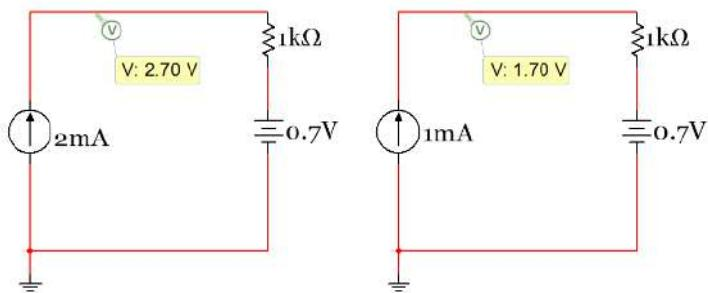
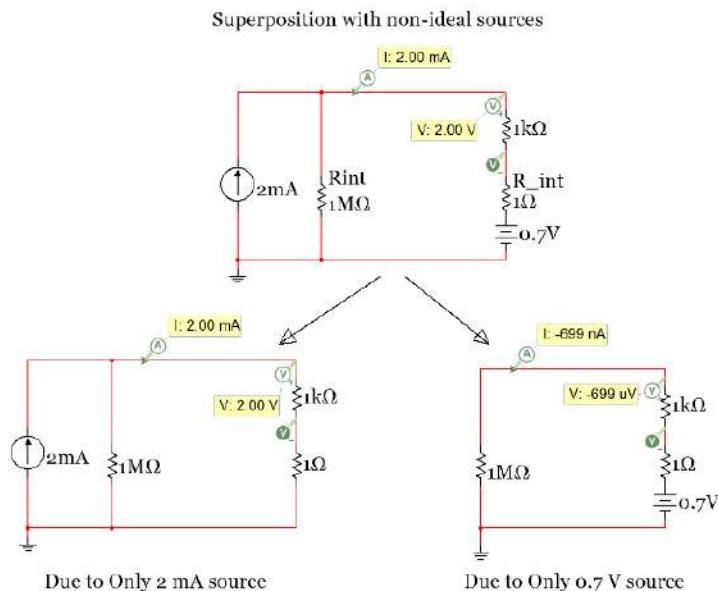
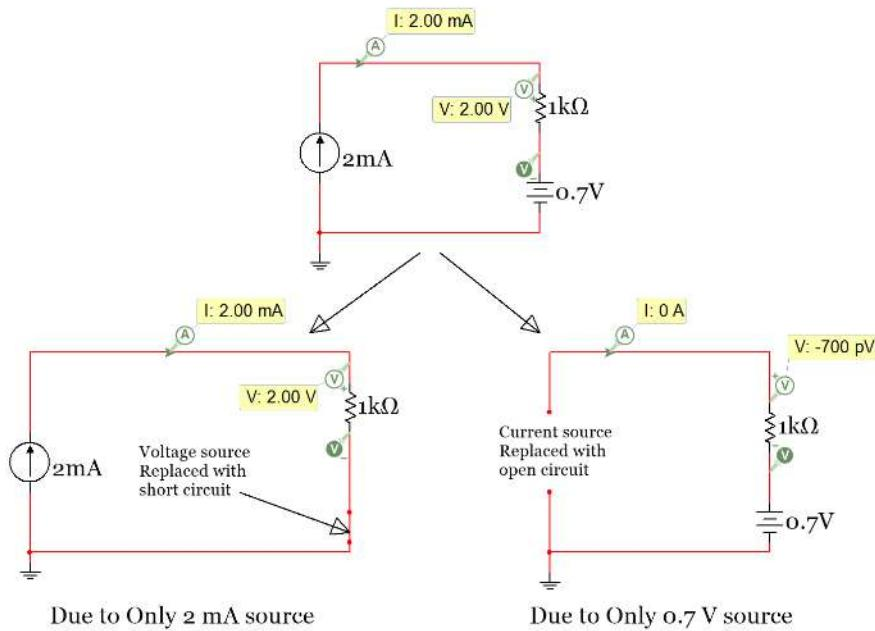

Figure 2.32: Example of a linear system - Circuit with a resistor and a diode that is replaced with a battery.
Figure 2.33: Example of Superposition with Non-Ideal Sources - The 0.7 V battery has a negligible effect
Figure 2.34: Example of Superposition with Ideal Sources
using Newton's 2nd Law all of the forces acting on the mechanical body result in the body having a net acceleration. If the system is linear then superposition can be used where the acceleration due to each individual force is calculated one at a time. All of the individual accelerations could then be added together and the resulting total acceleration that results would be the same as solving the system all in one step with all forces in the same calculation. This same process can also be used for independent sources in electrical linear systems. The only thing that complicates the superposition procedure for linear circuits is what to do with the "other sources" that are physically connected to the circuit as you solve the circuit one source at a time. If the sources are not ideal then the "other sources" are replaced with their internal resistance. Recall in Figure 1.3 of Module 1 that a non-ideal voltage source is modeled as a battery in series with a small resistor. This small resistor (called R_{int}) is the internal resistance. A non-ideal current source is modeled as a large resistor in parallel with the current source. If the sources of the circuit in Figure 2.32 are replaced with a non-ideal current source with internal resistance of $1\text{ M}\Omega$ for the current source and $1\text{ }\Omega$ in series to transform the ideal voltage source to a non-ideal voltage source, the results are shown in the top circuit in Figure 2.33. The voltage across the $1\text{ k}\Omega$ resistor is approximately 2 V , which is the same value as obtained in the circuit in Figure 2.32 with ideal sources. The value is approximately the same because the values of R_{int} in this case for the current and voltage sources have minimal effect on the circuit.
For sub-problem 1 (on the left side of Figure 2.33) the voltage source must be "zeroed out" and for sub-problem 2 (on the right side of Figure 2.33) the current source must be "zeroed out" so that only the internal resistance remains for both. To zero out an independent source the following is done:
The magnitude of the voltage and current of the $1\text{ k}\Omega$ resistor in the bottom-left circuit in Figure 2.33 due to only the 2 mA current source (sub-problem 1) can be calculated as follows:
- $I_{1k\Omega_1} = 2\text{ mA}$ because the source forces 2 mA through the loop (verified by Multisim in Figure 2.33).
- $V_{1k\Omega_1} = I_{1k\Omega_1} \cdot 1\text{ k}\Omega = 2\text{ mA} \cdot 1\text{ k}\Omega = 2\text{ V}$ (as verified by Multisim in Figure 2.33).
In this example the 0.7 V has very little effect on current or voltage through the $1\text{ k}\Omega$ resistor since there is a $1\text{ M}\Omega$ resistance in the circuit. The magnitude of the voltage and current of the $1\text{ k}\Omega$ resistor in the bottom-right circuit in Figure 2.33 Due to only the 0.7 V voltage source (sub-problem 2) can be calculated as follows:
- $I_{1k\Omega_2} = (0.7\text{ V})/(1\text{ M}\Omega + 1\text{ k}\Omega + 1\text{ }\Omega) = 6.99\text{E-7 A}$ or 699 nA (as verified by Multisim in Figure 2.33).
- $V_{1k\Omega_2} = I_{1k\Omega_2} \cdot 1\text{ k}\Omega = 699\text{ nA} \cdot 1\text{ k}\Omega = 6.99\text{ E-4}$ or $699\text{ }\mu\text{V}$ (as verified by Multisim in Figure 2.33).
- $I_{1k\Omega} = I_{1k\Omega_1} + I_{1k\Omega_2} = 2\text{ mA} - 699\text{ nA} = 1.9993\text{ mA}$ (rounded to 2 mA in Multisim, top circuit in Fig 2.33)
- $V_{1k\Omega} = V_{1k\Omega_1} + V_{1k\Omega_2} = 2\text{ V} - 699\text{ }\mu\text{V} = 1.9993\text{ V}$ (rounded to 2 V in Multisim, top circuit in Fig 2.33)
In this course we will only deal with Ideal independent sources so the internal resistance doesn't have to be included. For ideal voltage sources the internal resistance is zero (replace R_{int} in Figure 2.33 with a short circuit) and for ideal current sources the internal resistance is infinity (replace R_{int} in Figure 2.33 with an open circuit). If the sources in the circuit in Figure 2.33 are ideal then Figure 2.34 shows how the circuit would look and how the circuits for the 2 sub-problems would look.
- $I_{1k\Omega} = I_{1k\Omega_1} + I_{1k\Omega_2} = 2 \text{ mA} - 0 \text{ A} = \underline{\underline{2.0 \text{ mA}}}$ (Matches top circuit in Fig 2.34)
- $V_{1k\Omega} = V_{1k\Omega_1} + V_{1k\Omega_2} = 2 \text{ V} - 0 \text{ V} = \underline{\underline{2.0 \text{ V}}}$ (Matches top circuit in Fig 2.34)